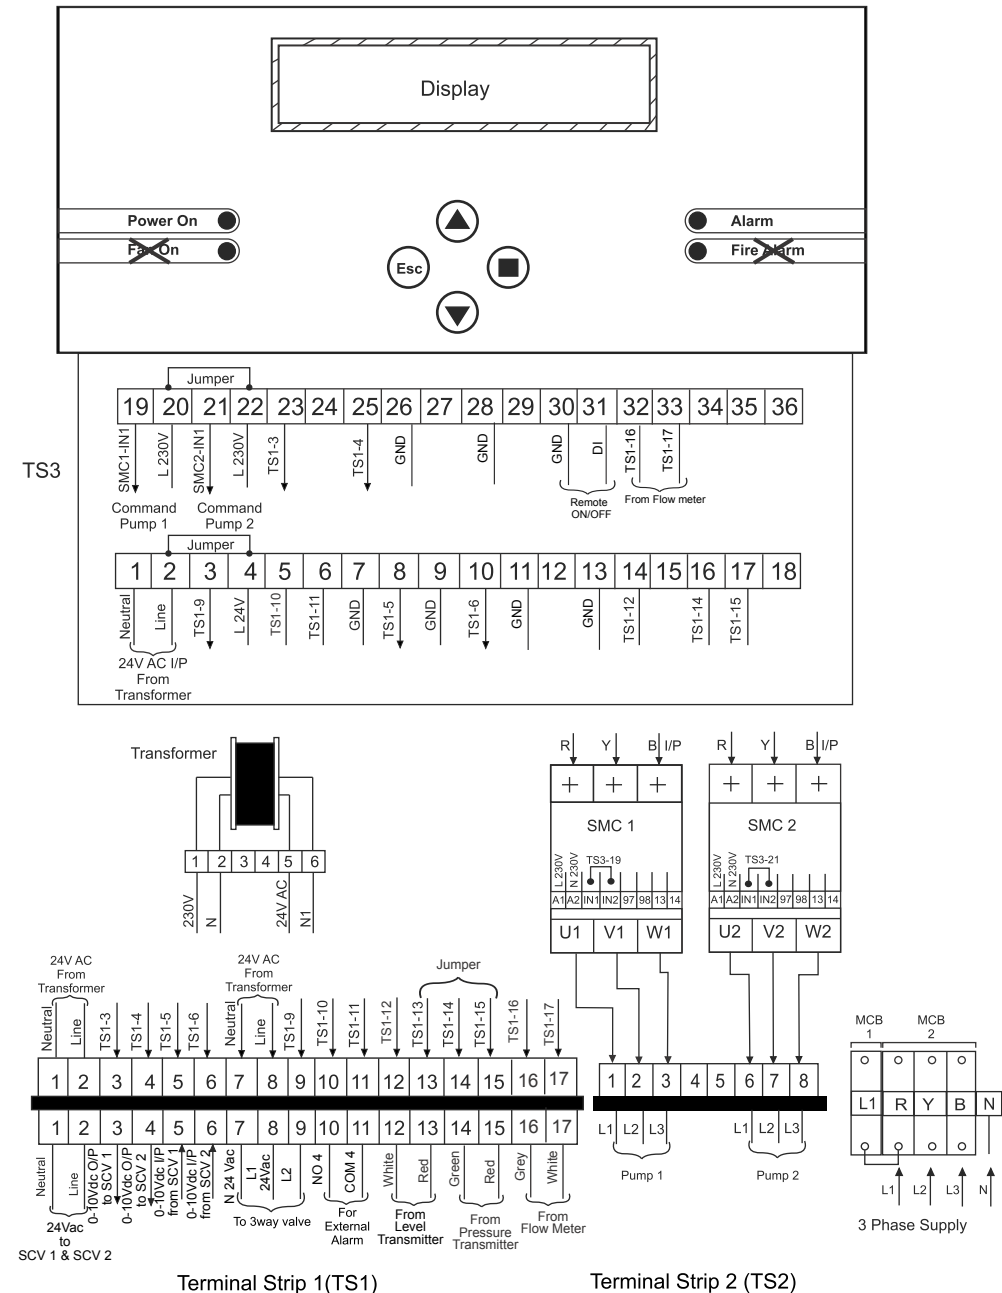

Fig. 5
- Connect Red wire of level transmitter with terminal ⑬ of control panel as shown in **fig. 5** and connect white wire of level transmitter with ⑫ of wired pressure transmitter is supplied loose with control panel.